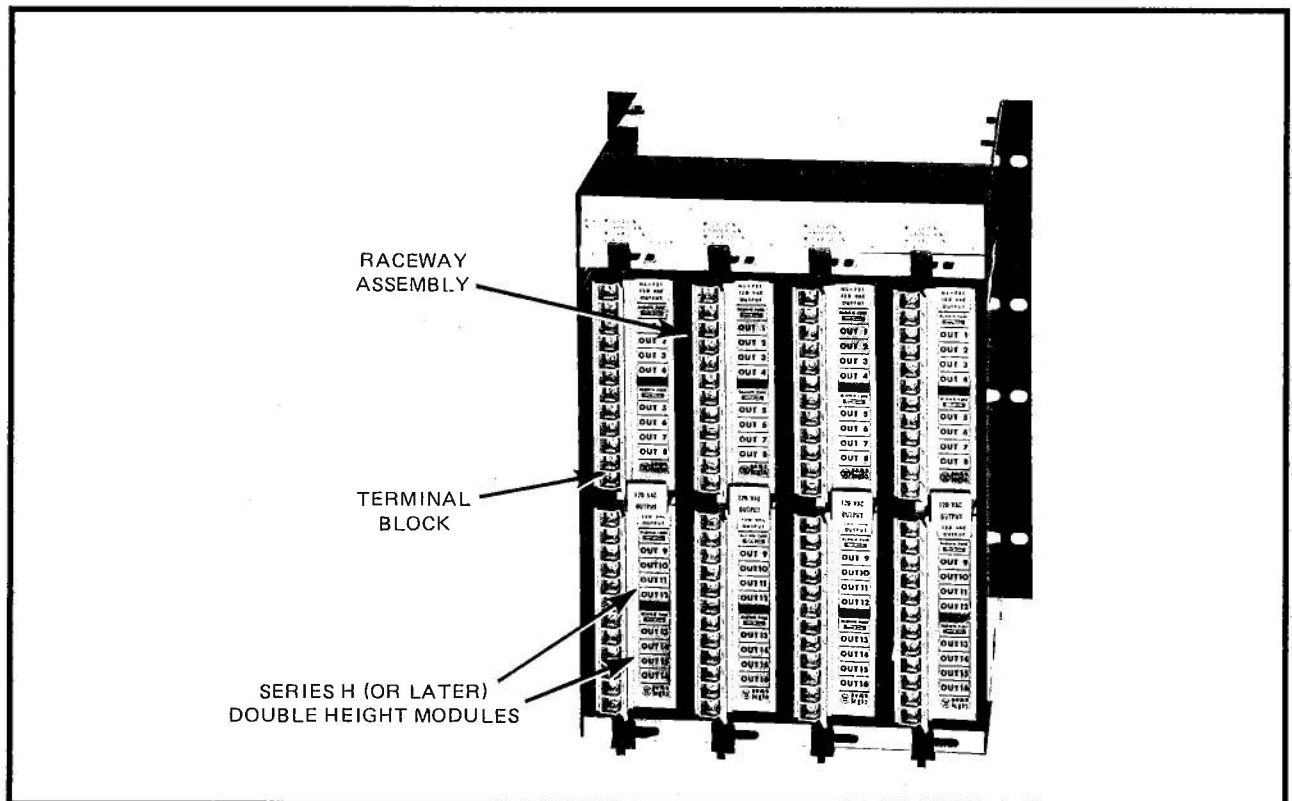
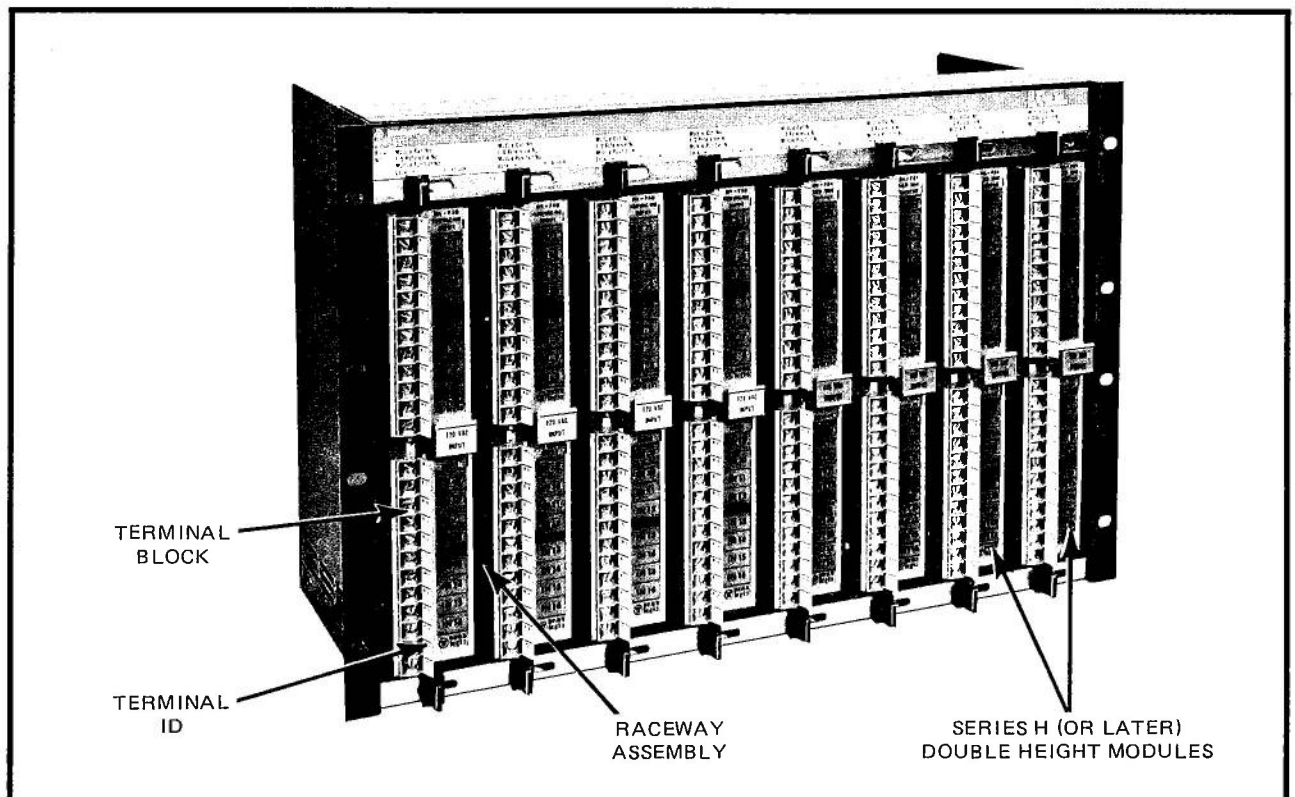

Figure 7-25. NLRH-704P, Four-Module Horizontal Rack (Panel Mount)
Figure 7-26. NLRH-708R, Eight-Module Horizontal Rack (Rack Mount)
modules. Horizontal racks are available for panel (P) or rack (R) mounting, and contain four or eight modules. The panel-mountable NLRH-704P is shown in Figure 7-25. The rack-mountable NLRH-708R is shown in Figure 7-26.